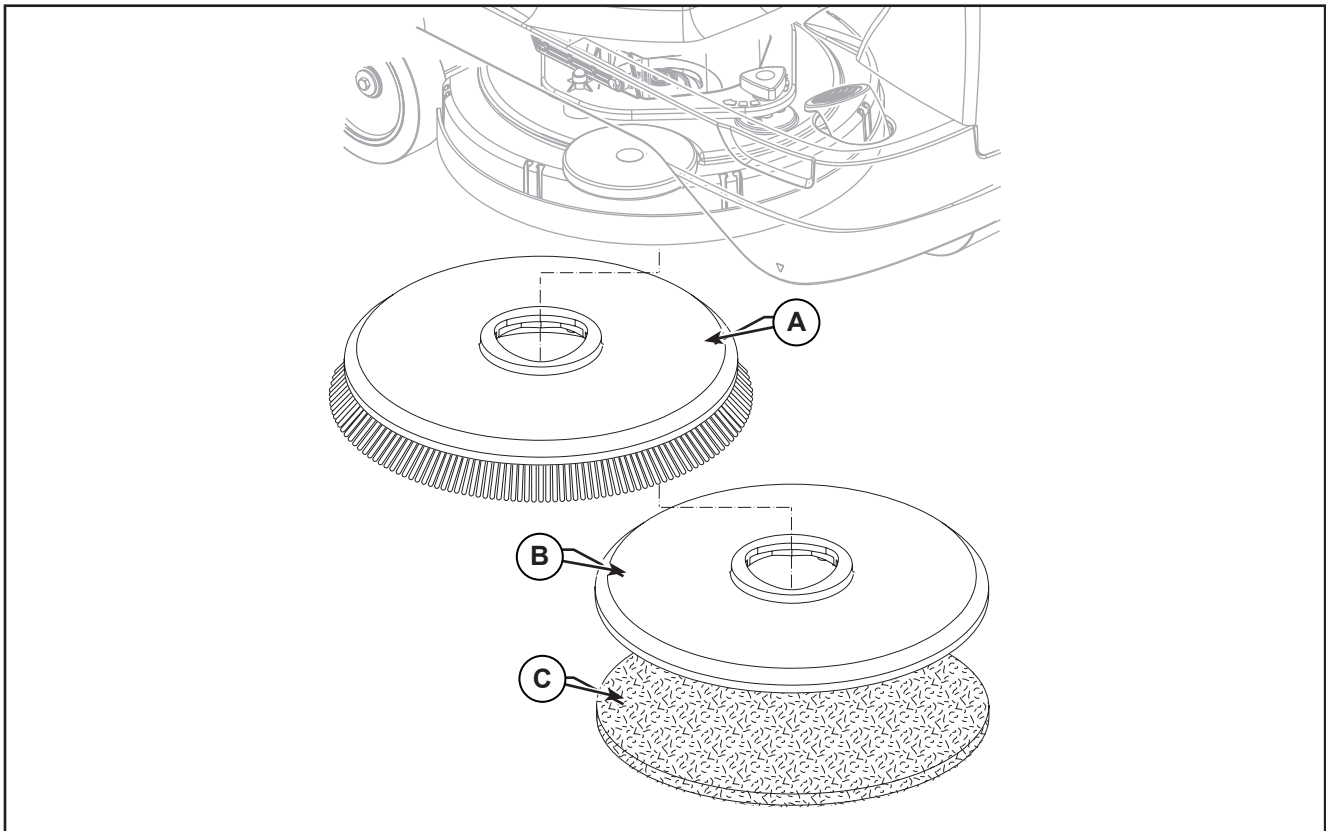

Figure 6:
1. According to the kind of cleaning to be performed, the machine can be equipped either with the brush (A) (Figure 6) or the pad-holder (B) with pad (C) together with the appropriate deck.
2. Place the brush (A) or the pad-holder (B) under the deck.